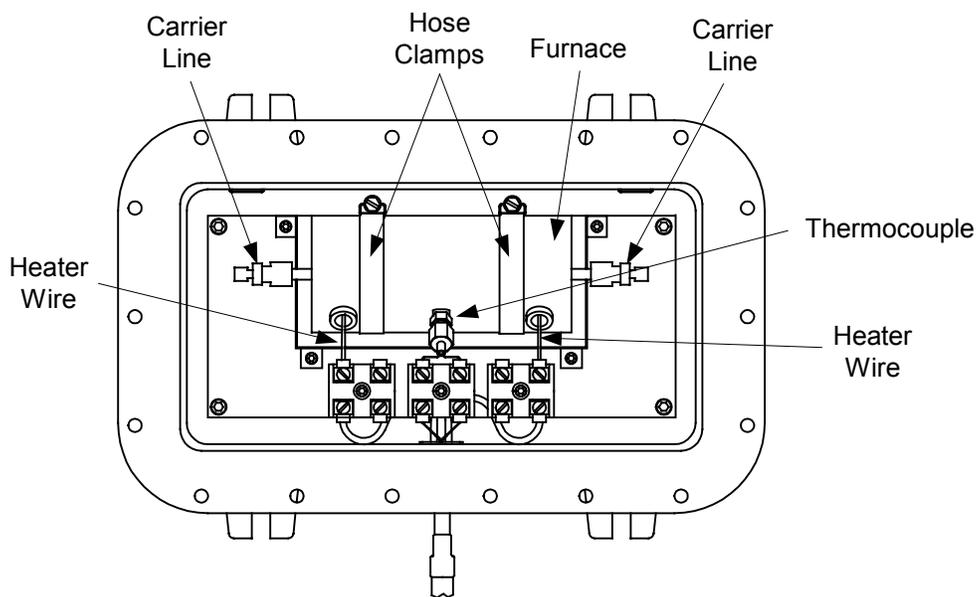
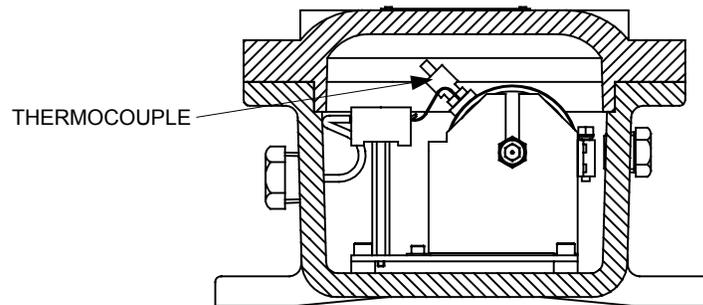

Figure 2. FURNACE HOUSING WITH COVER REMOVED
Figure 3. THERMOCOUPLE/COVER ORIENTATION
1. Disconnect the carrier lines from the furnace (see Figure 2).
3. Rotate the furnace until the thermocouple (see Figure 2) is on approximately a 45 degree angle. If the thermocouple approaches a horizontal position, it may contact the cover when it is installed (see Figure 3), either damaging the thermocouple or causing an electrical short.
6. Connect the heater wires to the outside terminals as shown in Figure 2. Hold the terminal as you tighten the screw holding the wire in place, to prevent damage to the terminal.
2. Locate the thermocouple connections to the furnace (see Figure 2).